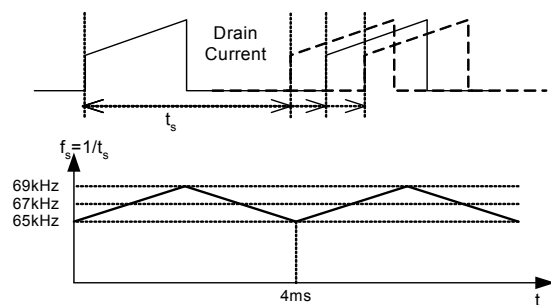

Figure 9. Frequency Modulation Waveform
7. Frequency Modulation : Modulating the switching frequency of a switched power supply can reduce EMI. Frequency modulation can reduce EMI by spreading the energy over a wider frequency range than the bandwidth measured by the EMI test equipment. The amount of EMI reduction is directly related to the depth of the reference frequency. As can be seen in Figure 9, the frequency changes from 65KHz to 69KHz in 4ms for the FSDM0265RNB. Frequency modulation allows the use of a cost effective inductor instead of an AC input mode choke to satisfy the requirements of world wide EMI limits.